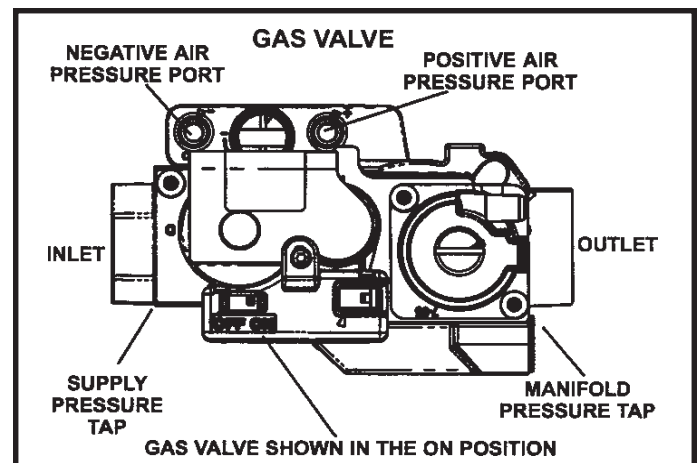

Figure 42
Gas Valve Operation (Figure 42)
6. Move the gas valve switch to the **OFF** position. See Figure 42.
8. Move gas valve switch to the **ON** position. See Figure 42. **DO NOT** force.